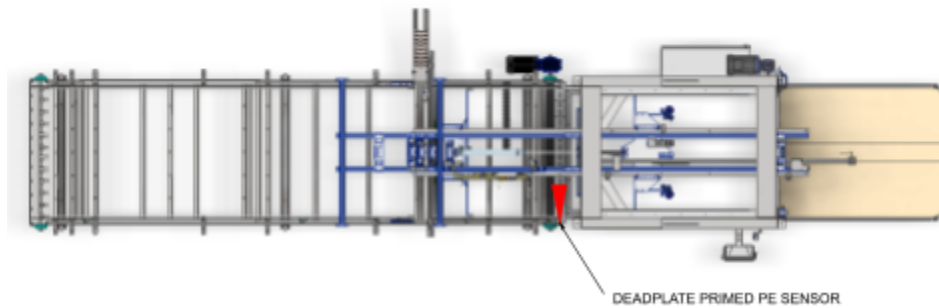

Fig. 15: Deadplate Primed PE Sensor
5. As back pressure builds on the Conveyor, the proper nesting pattern will be set as cans reach the scalloped Deadplate at the front edge of the Conveyor. When sufficient cans are accumulated so that cans are populated across the full width of the Deadplate, the Deadplate Primed Photo Eye Sensor (Fig. 15) should be blocked and ON. If cans are present in front of the sensor but no light appears, adjust the sensitivity of the sensor using a small screwdriver.